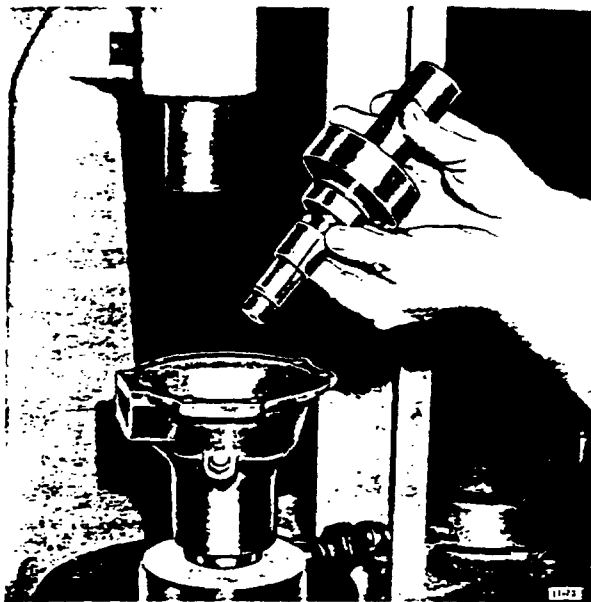

Figure 2-109. Installing Fan Drive Shaft
8. Place fan drive housing nose down on press base and install shaft with coupling, bearing and spacer in housing and through large bearing. Press shaft assembly into housing using suitable plug. See Figure 2-109.